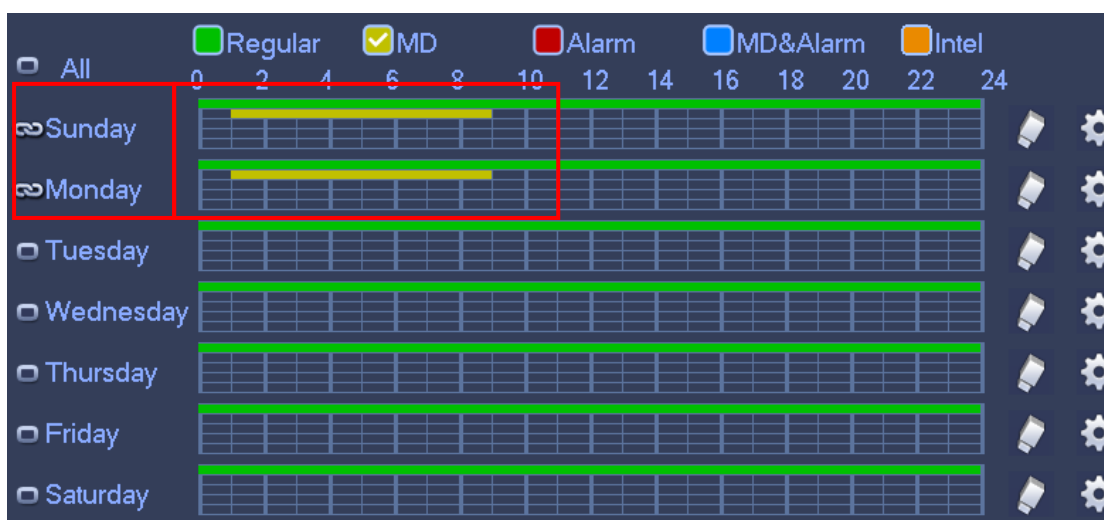

Figure 4-41
- ✧ Please draw manually to set record period. There are six periods in one day. See Figure 4-41.